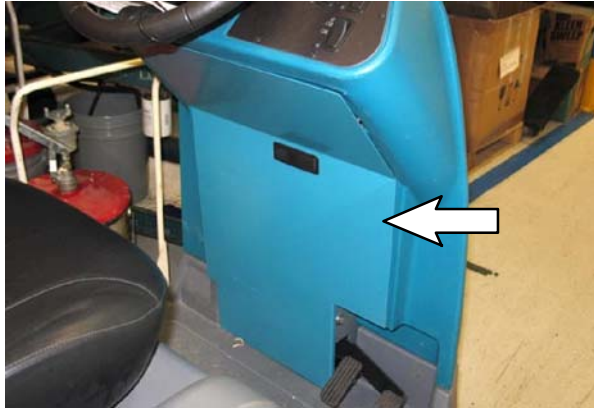

FIG. 5
15. Remove the access panel from the steering channel. (Fig. 5)
23. Reinstall the access panel onto the steering channel. (Fig. 5)